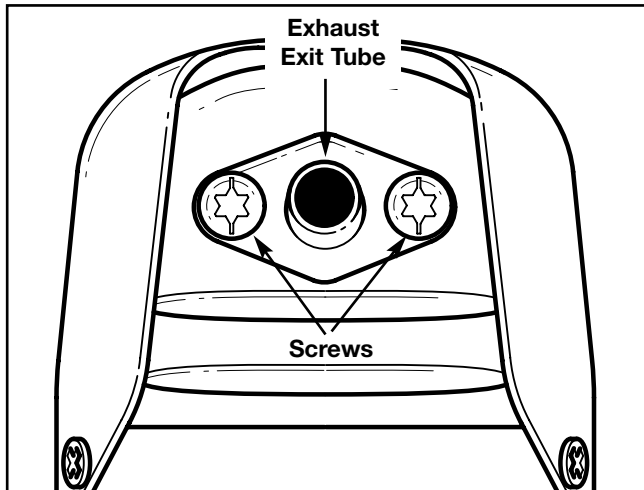

Fig. 35
1. Remove the screws securing the exhaust exit tube to the muffler body (Fig. 35).
2. Install the muffler with the muffler mounting bolts (see Fig. 35) and torque the bolts to **80-90 in•lb (9-10.1 N•m)**.